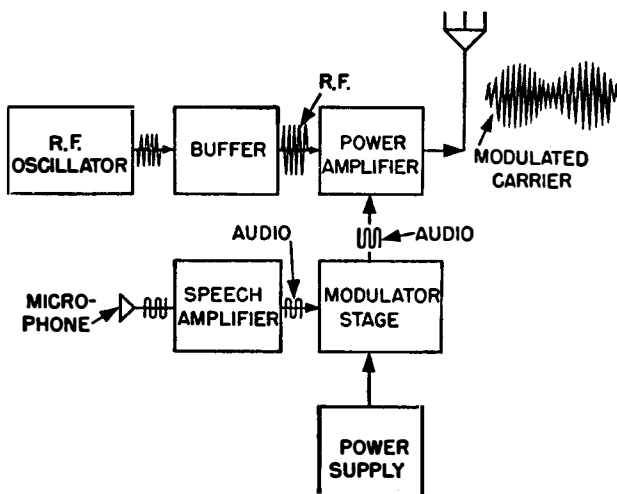

Figure 4-6.—Block diagram of a modulated transmitter.
In figure 4-6 the output of a speech amplifier is fed into a modulator stage, causing the output of the power amplifier to vary in accordance with the voice signal. The radio-frequency (RF) and audio-frequency (AF) voltages are combined in the power amplifier to form a wave
that contains characteristics of both. Notice in figure 4-6 that the amplitude of the carrier wave varies in direct proportion to the amplitude of the audio component. The part of the resultant wave that comes from the transmitter section is the RF component; the part from the speech amplifier is the AF component.